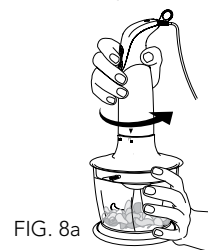

FIG. 8a
6. During processing, you can adjust the speed by selecting the LOW (I) or HIGH (II) speed button.
7. To stop the appliance, take your fingers off the switch button (I) or (II). Unplug the unit from the power outlet.
8. Turn the motor unit counter-clockwise until the arrow mark on the motor unit is aligned with the unlocked symbol (🔓) on the chopper lid, as illustrated in Fig. 8a. Detach the motor unit from the lid as illustrated in Fig. 8b. Turn the lid in a counter-clockwise direction as illustrated in Fig. 8c to remove from the chopper bowl as shown in Fig. 8d.